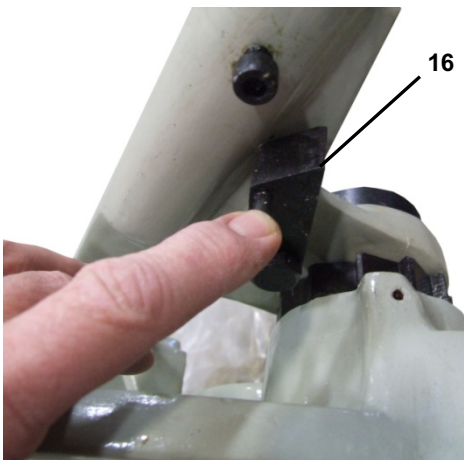

Figure 7-1
1. To raise the ram, lift up the ratchet dog (#16) shown in (fig.7-1) to disengage from the ratchet gear, and rotate the hand wheel (#4) counterclockwise (ccw).